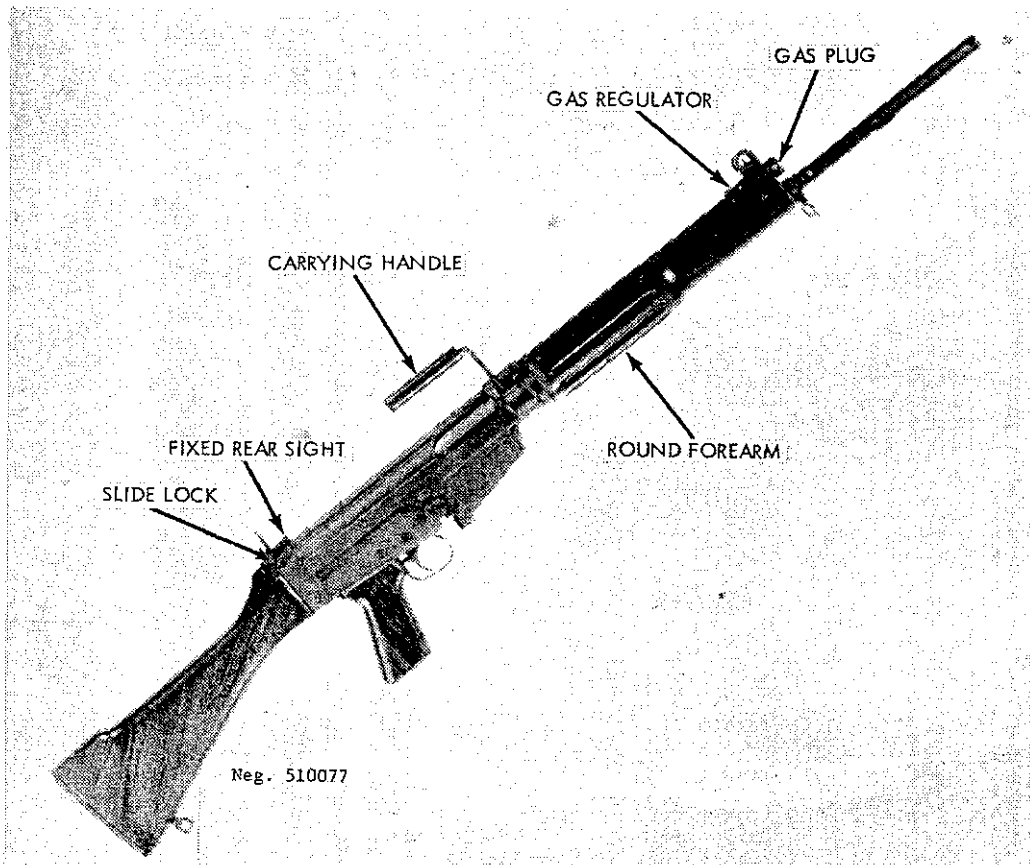

Figure 78. FN/FAL rifle, early version.
semiautomatic fire only, have zigzag dirt clearance cuts in the bolt carriers, folding operating handles, and enlarged magazine catches and selectors. In addition, the FAL are found with or without flash suppressors, with different types of bolt covers, and with a forearm of several different styles (fig 78). It is often difficult to identify the original purchasing nation of an FAL unless the rifle is stamped with an identifying seal or crest.
h. There are two types of gas regulators (fig 78), both of which are adjustable. Both function in the same manner but are adjusted differently. The older type regulator has a square forward face; move this type back until it just uncovers the oval gas escape port behind the front sight. Insert an empty magazine, close the regulator 20 clicks, load a live round into the chamber, and fire. If the bolt does not catch to the rear, close the regulator five more clicks and refire. Continue this action until the bolt is just caught to the rear, for five consecutive shots; then close the regulator three additional clicks. If the gun fails to reload after it has been fired, close the regulator two clicks at a time until reliable functioning is achieved. The new style regulator has an angled cut on its forward face and is easier to adjust. Move this regulator back until the gas escape port is uncovered; then, with an empty magazine in place, fire one cartridge; if the bolt does not catch to the rear, close the regulator one click and refire. Repeat (and adjust if necessary) until the bolt is caught for five consecutive shots; then close the regulator one more click. When a weapon in use fails to reload, close the regulator one click at a time until proper functioning is achieved. In all cases, note the correct setting for future use.
i. The gas plug (fig 78) is adjustable for firing rifle grenades. Press in the plunger on the plug and rotate it to the
e. Use the point of a cartridge or similar item to force in the plunger on the side of the gas plug (fig 78). Rotate the plug until it comes free; remove the plug, the piston, and the piston spring.